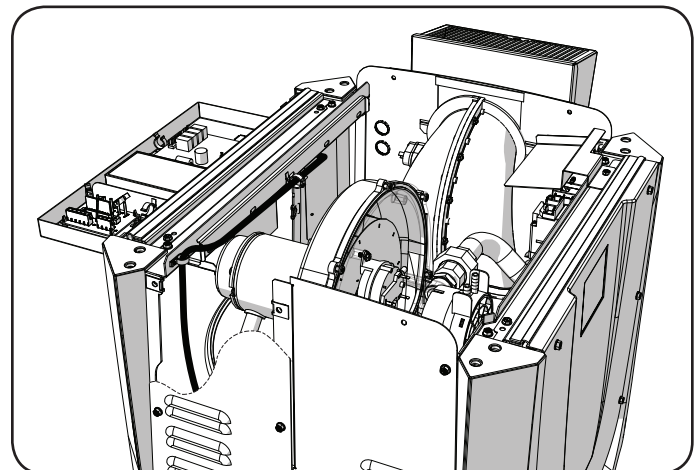

Figure 8. Bypass Harness Routing
3. Route the wire along the interior of the heater and behind the high voltage raceway. See Figure 8.
4. Secure at raceway brace corner using the installed P-Clamp or the zip ties included with the kit. See Figure 8.
5. Route through the standoff along center of the raceway brace. If no standoff is installed please secure with zip ties. See Figure 8.